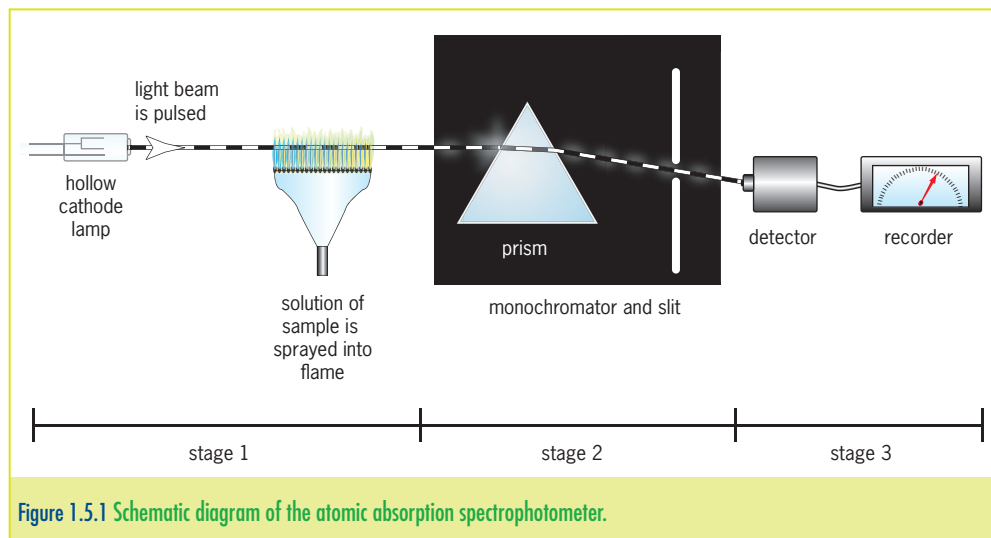

Figure 1.5.1 Schematic diagram of the atomic absorption spectrophotometer.
The use of atomic absorption (AA) spectroscopy was pioneered by Australian chemist Sir Alan Walsh (1916–1998) in the 1950s. The modern AA spectrophotometer is used worldwide to analyse for up to 70 metals in concentrations as low as parts per billion (ppb). It can be used for analyses as wide ranging as the detection of polluting heavy metals in waterways, and the presence of sodium ions in mineral water. A schematic diagram of the AA spectrophotometer (figure 1.5.1) allows us to identify the three key stages of analysis.